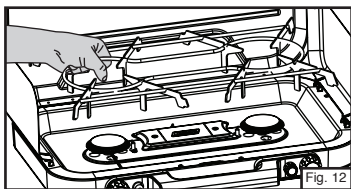

Fig. 12
- Install pot support as shown. (Fig. 12)